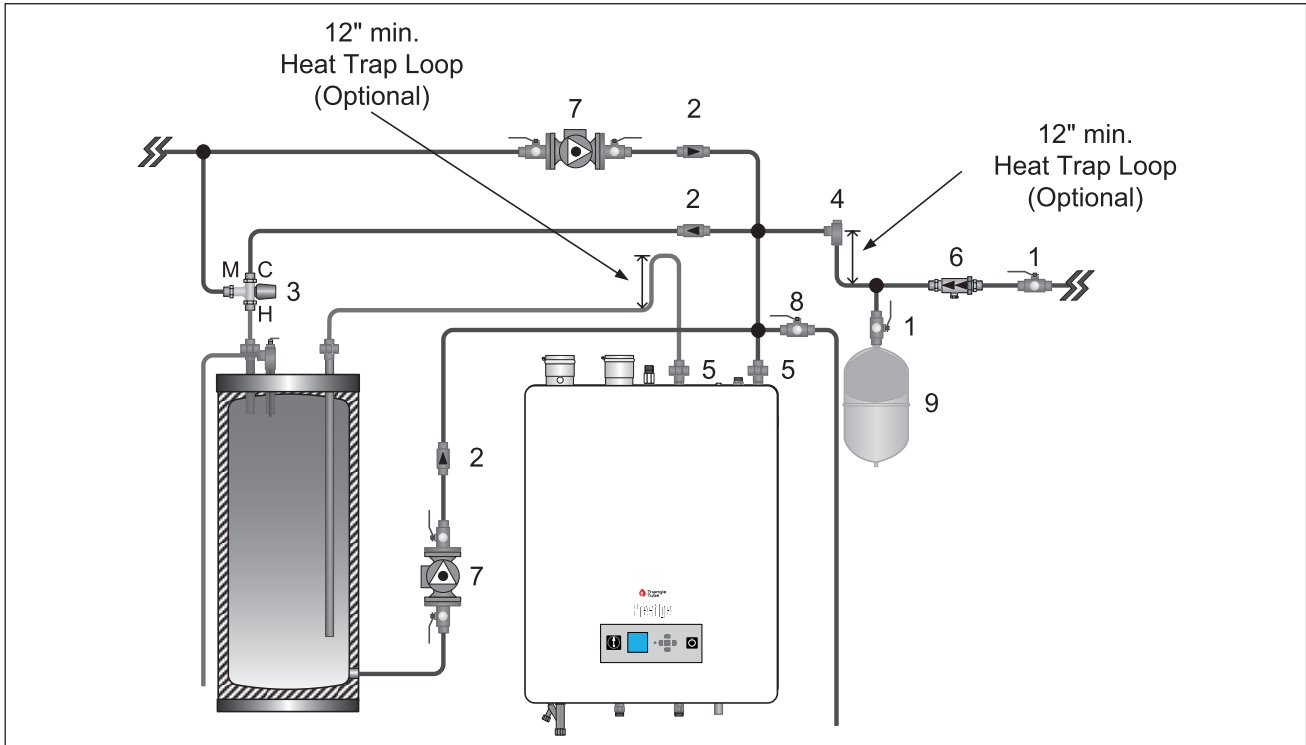

Fig. 6 - Standard Installation Domestic Piping with Optional Storage Tank
- For domestic water piping diagrams, see *Fig. 4 and Fig. 5 on page 7, and Fig. 6 on page 8*.
For applications requiring large volumes of domestic hot water in a relatively short period of time, the installer may include a storage tank (see *Fig. 6 on page 8*) in the domestic piping.